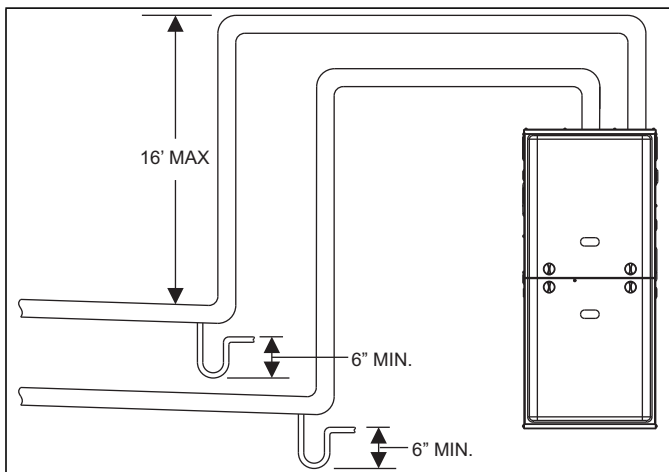

FIGURE 28: Downward Venting
7. Direct vent systems must be installed so the vent and the combustion air pipes terminate in the same atmospheric zone. Refer to Figures 28 & 29.
This installation requires combustion air to be brought in from outdoors. This requires a properly sized pipe (shown in Figure 28) that will bring air in from the outdoors to the furnace combustion air intake collar on the burner box. The second pipe (shown in Figure 28) is the furnace vent pipe.